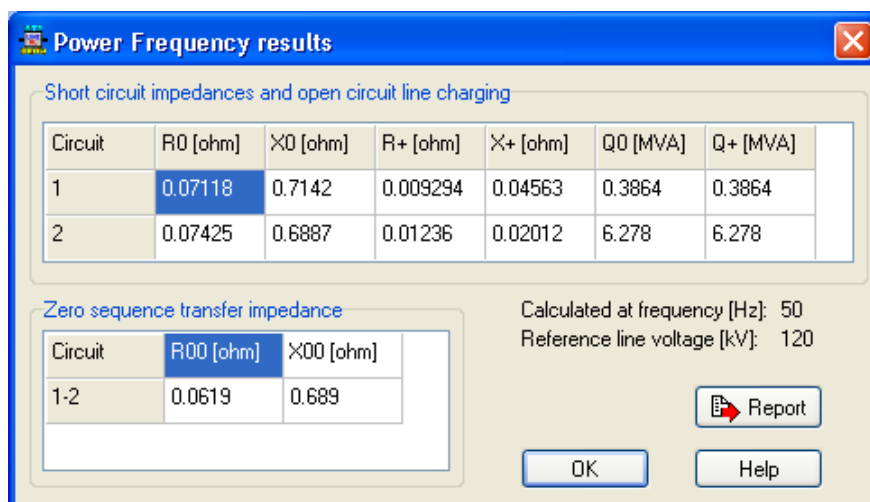

Fig. 5.37 - Results of the PFC run.
b) **Select PFC:** For the PFC test the user must specify the power frequency and the base voltage level for scaling of the reactive charging. Clicking on *OK* will result in the generation of a PFC data case called *xVerifyF.dat* and execution of ATP based on the settings of the ATP-Command (*Tools / Options / Preferences*). In this case, each circuit is tested individually (all other phases are left open while a specific circuit is tested). The library file describing the electrical model of the line/cable is included in a new ATP case and supplied by unity voltage or current sources in order to calculate the steady state short circuit impedances and open circuit reactive line charging. The file *xVerifyF.lis* is read by ATPDraw and the short circuit impedances together with the open circuit line charging is calculated in the zero-sequence and positive-sequence mode. The results of the calculations are displayed in Fig. 5.37.
If the user clicks on *Report* the content in the string grids of Fig. 5.37 will be dumped to a user selectable text file. Further details about the operation of the *Verify* feature and PFC option can be found in the Appendix part of the Manual.